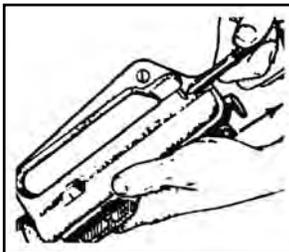

Figure 071-311-2025-9. Pulling the charging handle
- h. Remove the bolt carrier and bolt (figure 071-311-2025-10).